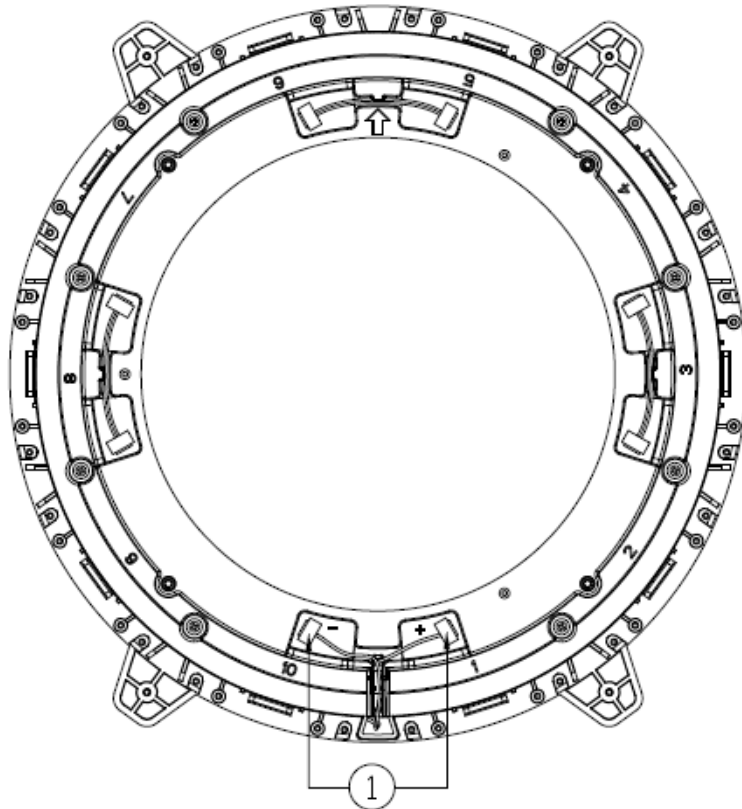
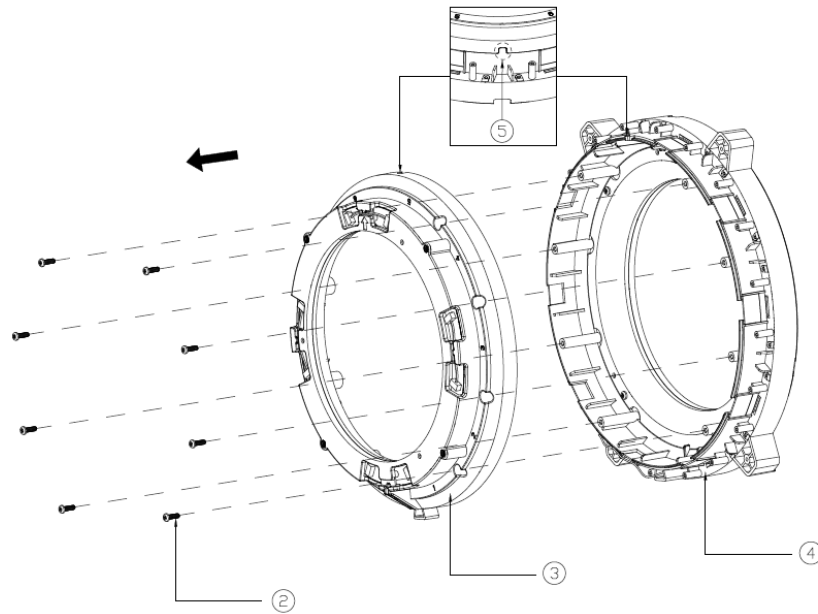

Figure 9-1
Figure 9-2
(9) Disassemble the Main Body Support-Up and the Main Body Support-Down
As shown in Figure 9-1 and Figure 9-2, remove the DuPont cable①. Red DuPont connects to "+". Black DuPont connects to "-". Remove 8 screws②, remove the Main Body Support-Up④ and the Main Body Support-Down③. The specification of the screw is the self-tapping screw, ST3*10mm.